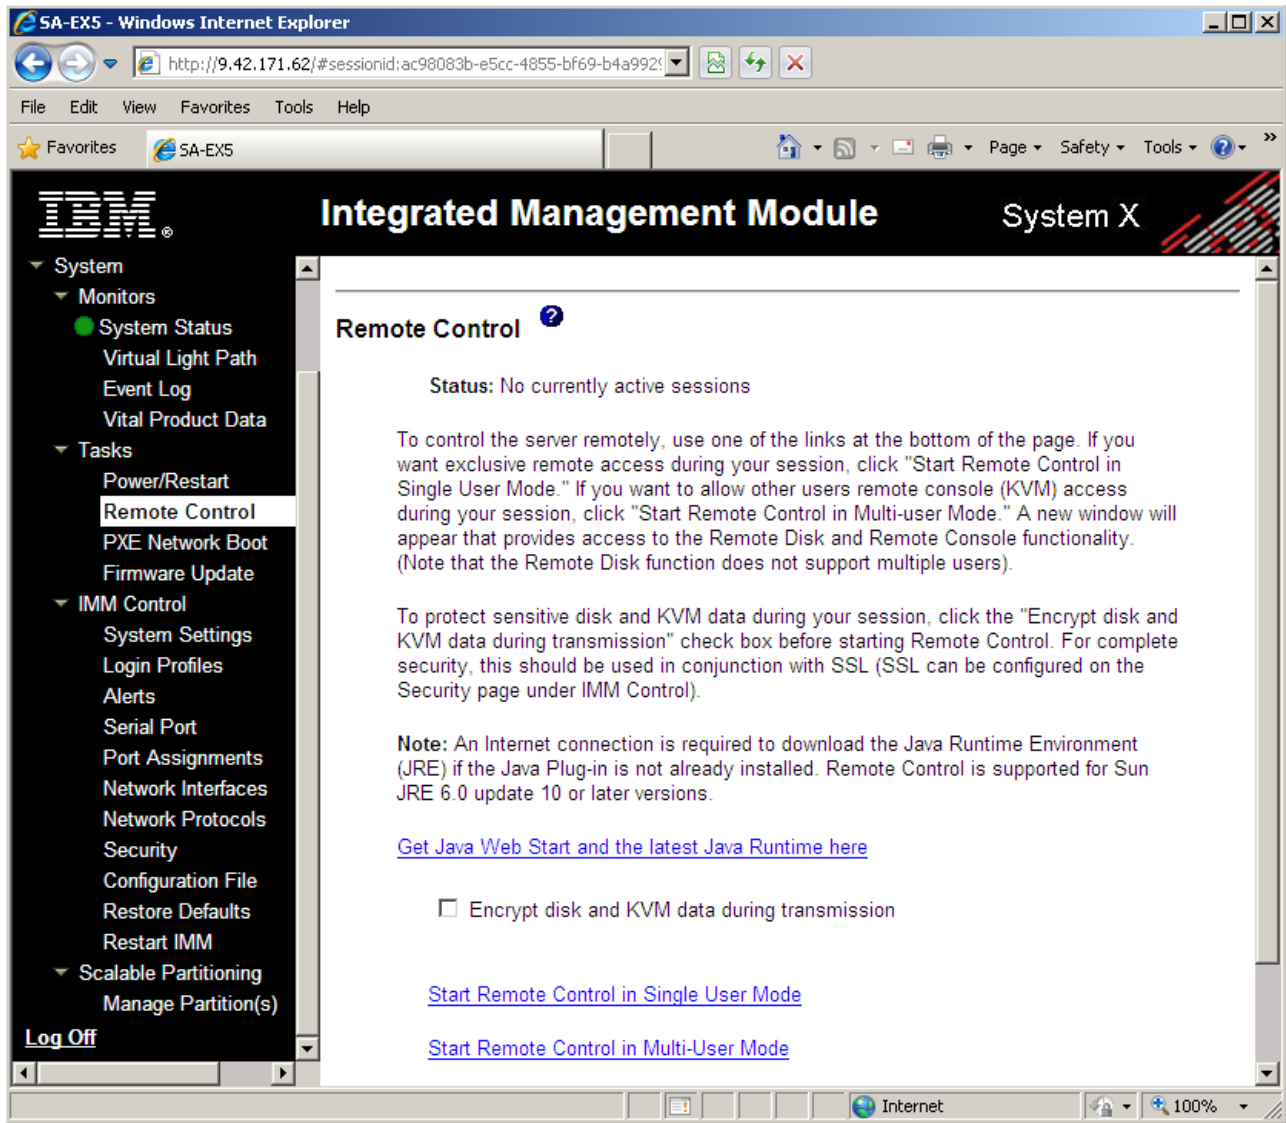

Figure 9-13 IMM Remote Control page
2. Select **Tasks** → **Remote Control**, as shown in Figure 9-13 on page 463.